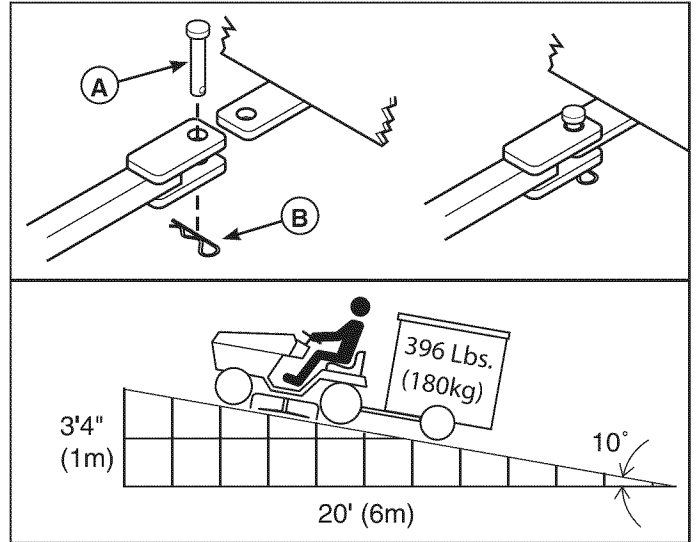

Figure 10
The maximum horizontal drawbar force allowed 444 Newton. The maximum vertical drawbar force is 222 Newton. This equates to a 396 lbs (180 kg) trailer on a 10 degree hill. Secure the trailer with an appropriately sized clevis pin (A, Figure 10) and clip (B).